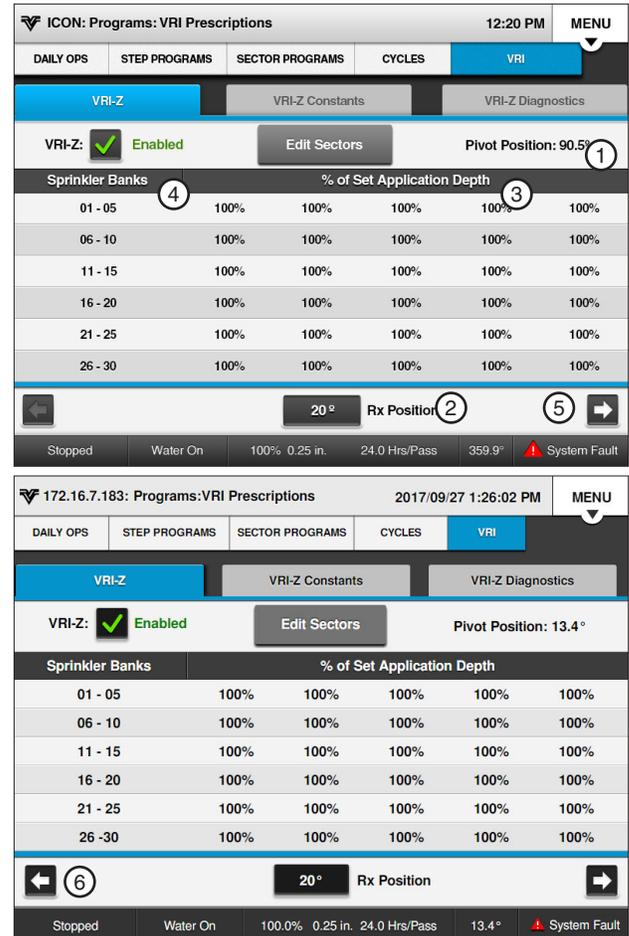

Figure 163-1 1. Pivot Position 2. Rx Position 3. % of Set Application Depth 4. Sprinkler Banks 5. Next 6. Previous
To display the duty cycle for each sprinkler zone at a specific position on the map: Refer to Figure 163-1.
1. Push **Menu**, **Programs**, **VRI** and **VRI-Z** to display the VRI-Z screen. Refer to Figure 163-1.